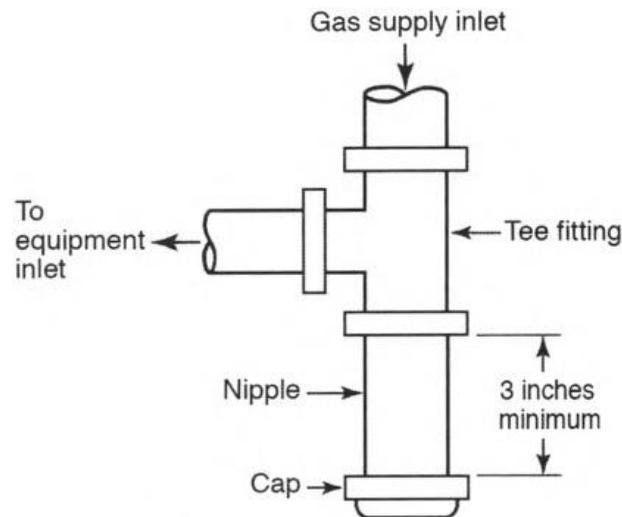

FIGURE A-1
- A sediment trap must be installed downstream of the appliance shutoff valve as close to the inlet of the appliance as practical at the time of appliance installation. The sediment trap must be a tee fitting with a capped nipple in the bottom outlet, as illustrated in Figure A-1. See **2022 CPC 1212.9** and **2022 CMC 1312.9**.